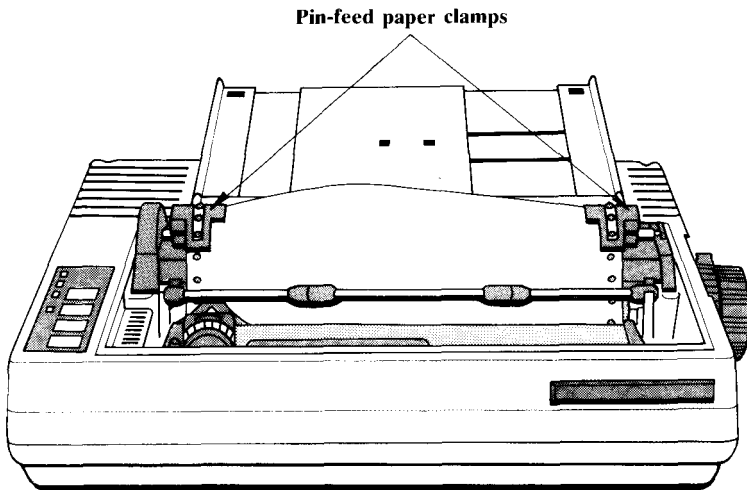

Figure 8. Front View
5. Adjust the pin-feed paper clamp positions for the width of the paper. Refer to Figure 8.